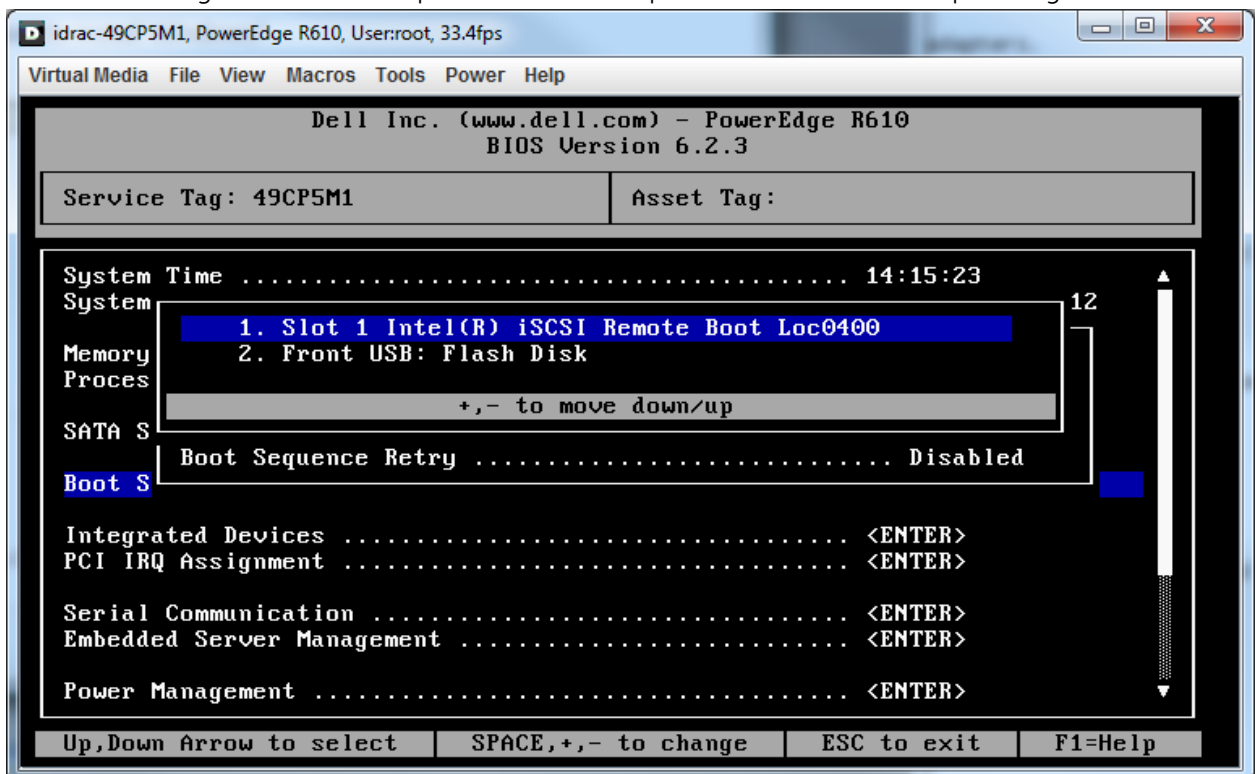

Figure 6 Changing Hard-Disk Drive sequence to put Intel NIC at the top.
- a. For Intel and Qlogic 1G/10G network adapters – go to **Hard-Drive Sequence**, press enter, and bring the network adapter listed to the top of the list. See an example in Figure 6.
- b. Go to "Hard-Disk Drive Sequence" and bring the network adapter to the top. As seen in Figure 6.